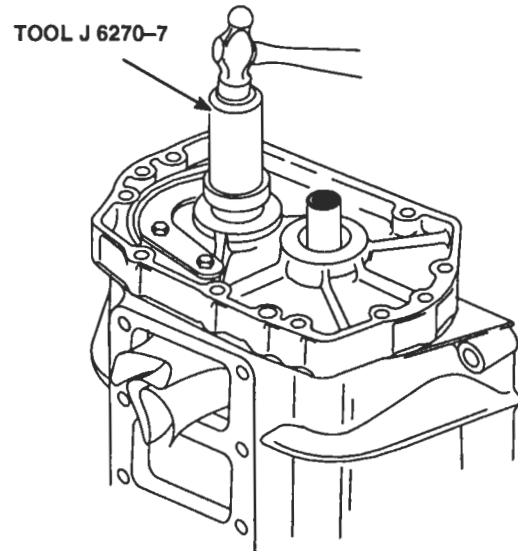

Figure 20. Installing Ball Bearing on Rotor Shaft and in Rear End Plate
- d. Place installer J 6270–7 on top of the bearing and tap the bearing straight on the shaft and into the rear end plate (Figure 20.)